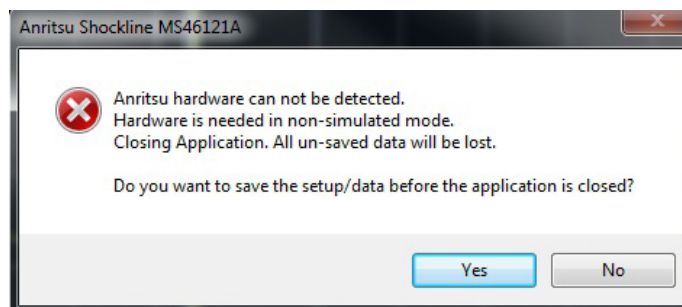

Figure 3-3. ShockLine warning when a MS46121A/B is removed from the port
7. When multiple MS46121A/Bs are in use and one is removed, the channel of the removed VNA will stay on the ShockLine software and the other channels will not re-arrange or shift. If all VNAs are removed, the ShockLine software will shut down. Prior to exiting, the software will ask the user if the setup should be saved. See Figure 3-3